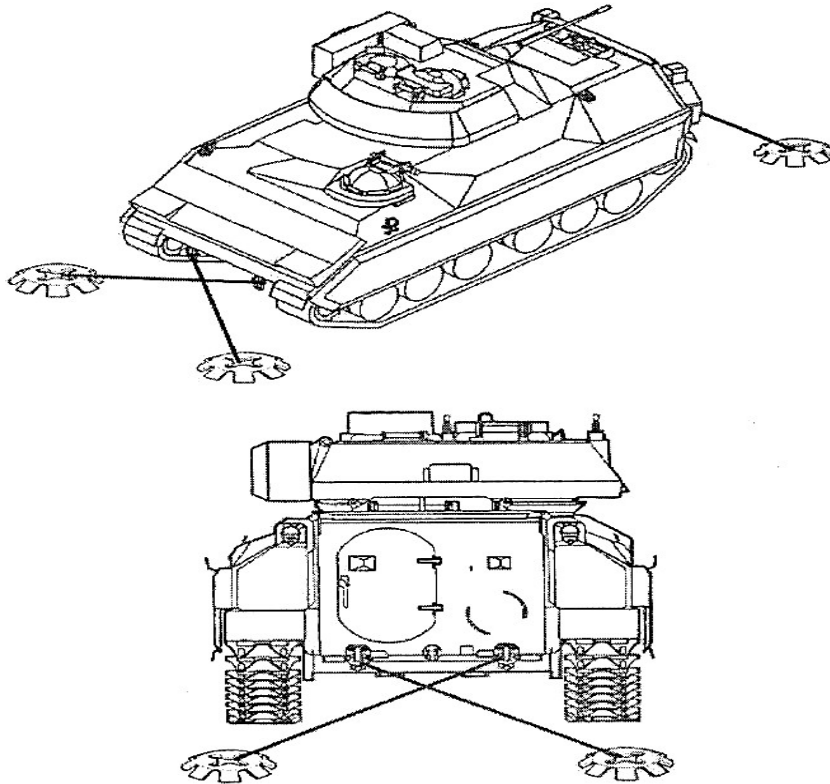

Figure 3-179
- c. Issue guidance that the lashing requirements for wheeled vehicles are based on a universal four-lashing pattern (two fore and two aft) (see Figure 3-179).